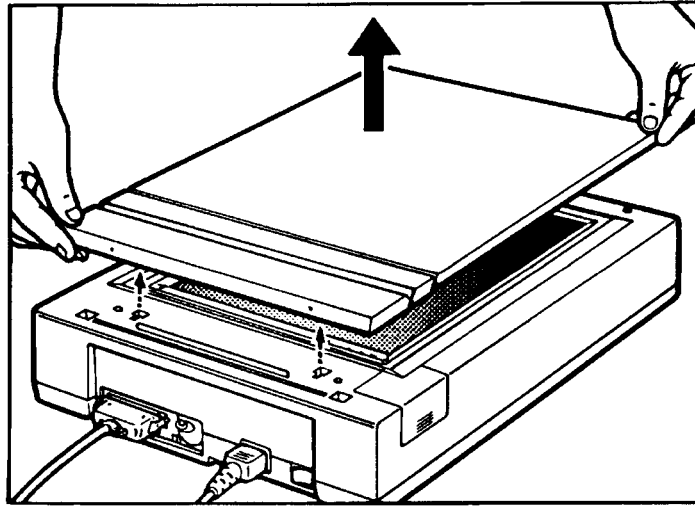

Figure C-4. Removing the Copyboard Cover
3. Lift and remove the copyboard cover. See figure C-4.